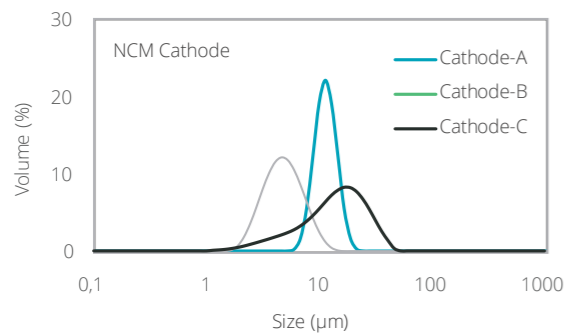
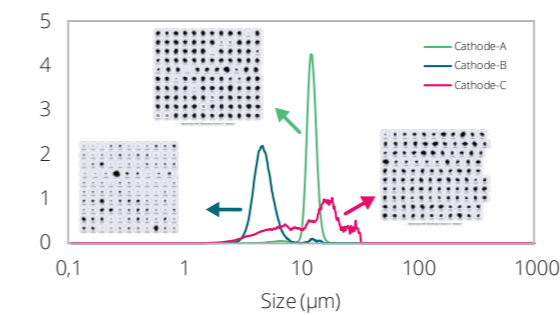
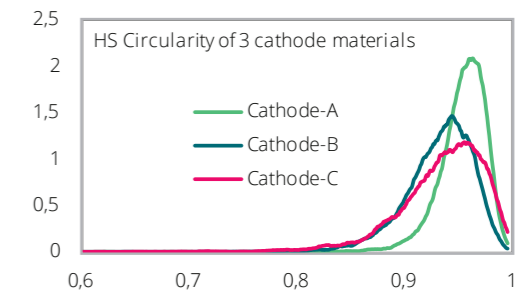

Figure 1. Particle size distribution of three batches of NCM811 cathode materials synthesized with different processing parameters.
Figure 6.
Figure 7.
Example Cathode Materials Circular Equivalent (CE) size distribution of three NCM cathode materials, as obtained from Morphologi 4 (Figure 6). These are the same samples as those measured with the Mastersizer 3000 in Figure 1. Circularity for these samples is compared in Figure 7. Circularity index 1 corresponds to perfect spheres and smaller values to larger deviation from circularity. A narrow distribution in circularity means uniform shape particles, whereas broad distribution represents large variance in particle shapes. Cathode A has circular particles, whereas B and C are irregularly shaped with large shape variations.
Figure 10. Composition and impurities analysis on five samples of  $\text{LiFe}_x\text{Mn}_{1-x}\text{PO}_4$  measured on the Epsilon 4 is shown in the table below. Measured Mn composition (Figure 7) shows a straight-line calibration with Target Mn composition in these samples.